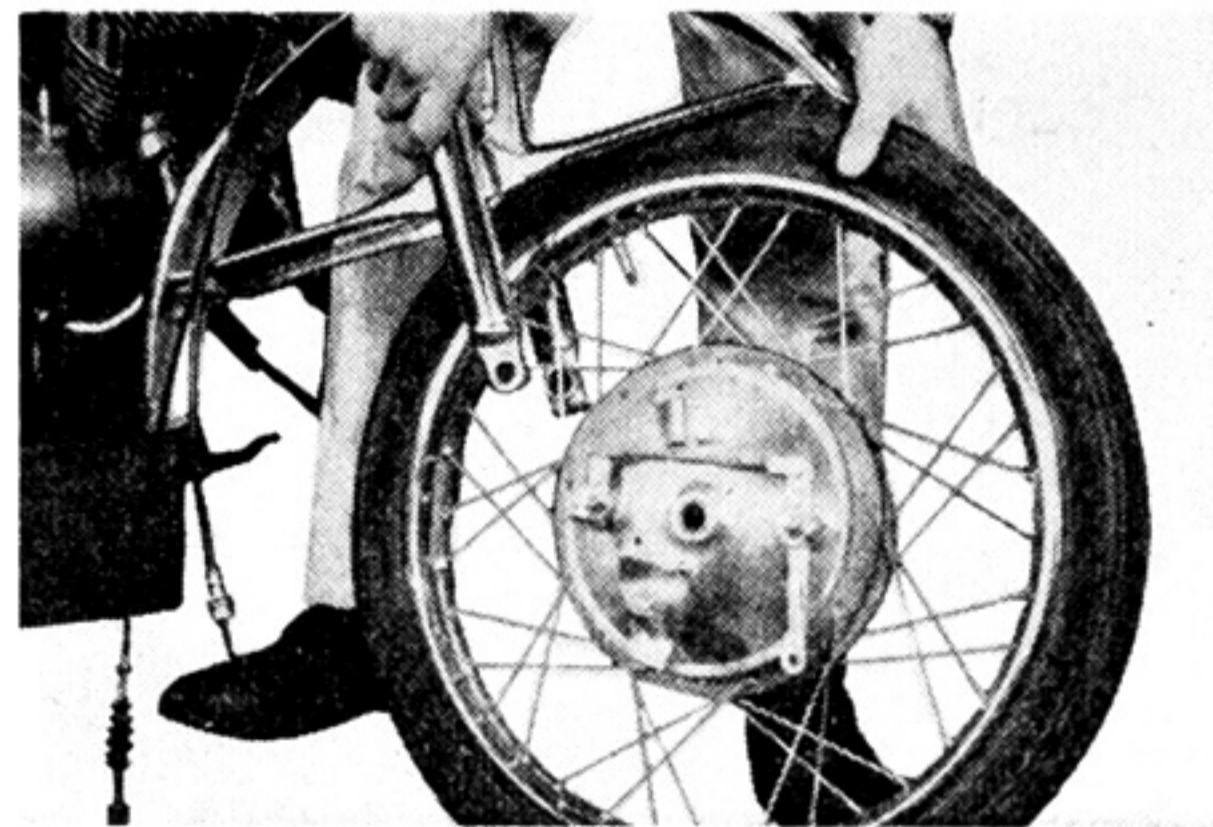

Fig. 4-1-6
- e. Remove the front wheel ass'y. (Fig. 4-1-6)